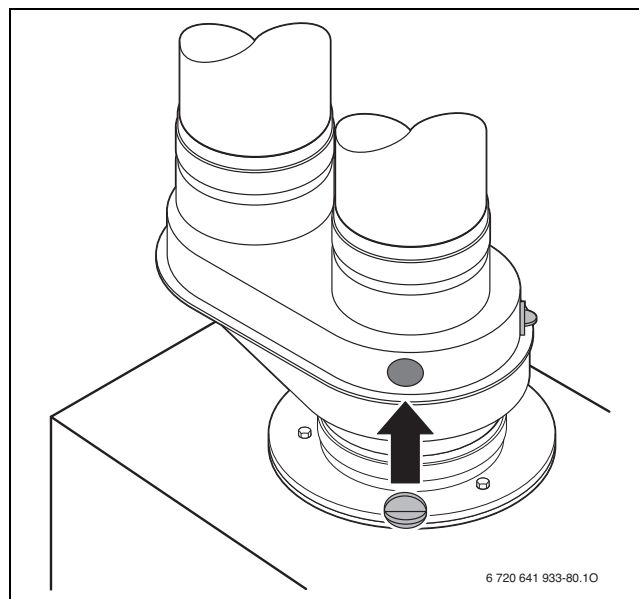

Fig. 80 Close flue gas test ports
- ▶ Remove the flue gas probe and seal the flue gas test port properly (→ Fig. 80).